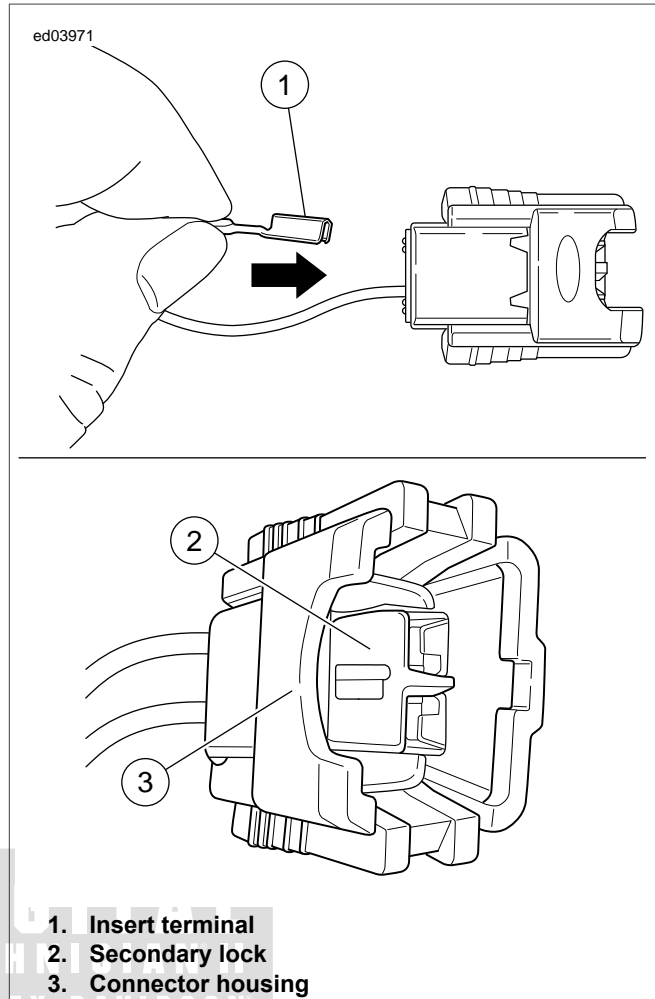

Figure B-22. Installing Terminal
- See Figure B-22. Verify that the terminals are properly crimped.